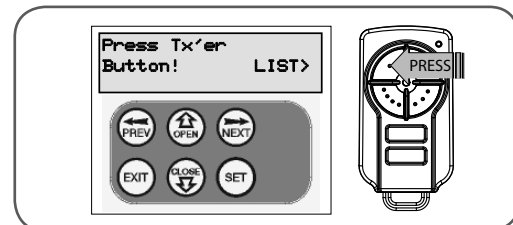

fig 35
3. Press transmitter once (Fig. 35).